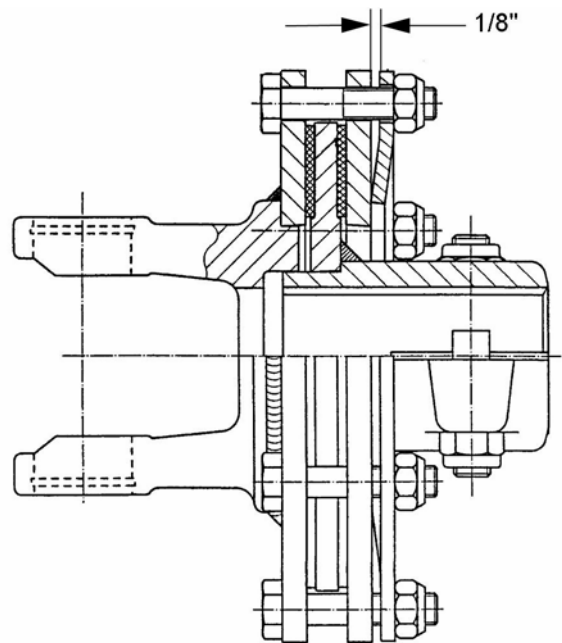

Figure 15. Slip Clutch Assembly
3. Mark outer plates of slip-disc clutch as shown in Figure 15.
9. Reassemble clutch and tighten bolts no more than 1/8 of a turn at a time until desired setting of 1.26" on BB48X, BB60X and BB72X cutters is reached. For BB84X cutters, set to 1.36". See Figure 15.
3. Loosen six 10 mm cap screws (6) to remove all tension from Belleville spring plate (5).
4. Hold clutch hub (3) solid and turn shaft to make sure clutch slips.
5. If clutch does not slip freely, disassemble and clean the thrust plate faces (4), flange yoke (1), and clutch hub (3).
6. Reassemble clutch. Tighten Belleville spring (5) until it is against the thrust plate (4) of the clutch, and then back off each of the six nuts by two full revolutions. The gap between Belleville spring and thrust plate should be 1/8" as shown in Figure 15.
7. If a clutch continues to slip when the spring is compressed to 1/8", check friction discs (2) for excessive wear. Discs are 1/8" when new. Replace discs after 1/16" wear. Minimum disc thickness is 1/16".